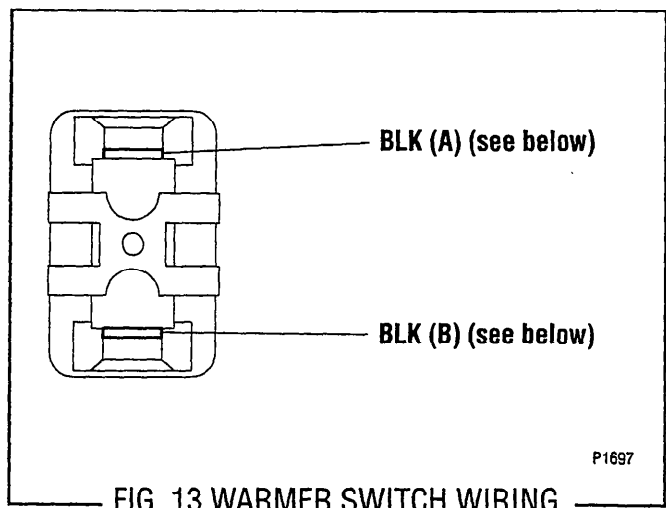

FIG. 13 WARMER SWITCH WIRING
3. Refer to FIG. 13 when reconnecting the wires.